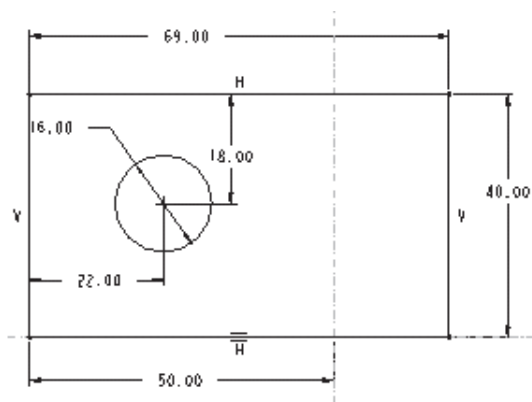

Figure 5-34 Sketch with dimensions and constraints for the base feature
- b. The first four features are extruded features, see Figure 5-42. First the sketch of base feature will be created on the **FRONT** datum plane, see Figure 5-34, and then it will be extruded to a depth of 10.
5. Once you enter the sketcher environment, create the sketch of the base feature and apply constraints and dimensions as shown in Figure 5-34. Note that in the sketch, the bottom line of the rectangular section coincides with the **TOP** datum plane.
As evident from the sketch of the base feature shown in Figure 5-34, the **RIGHT** datum plane is located at a dimension of 50 from the left edge because later in the tutorial, the rib feature will be created on this plane. The distance of 50 can be calculated from